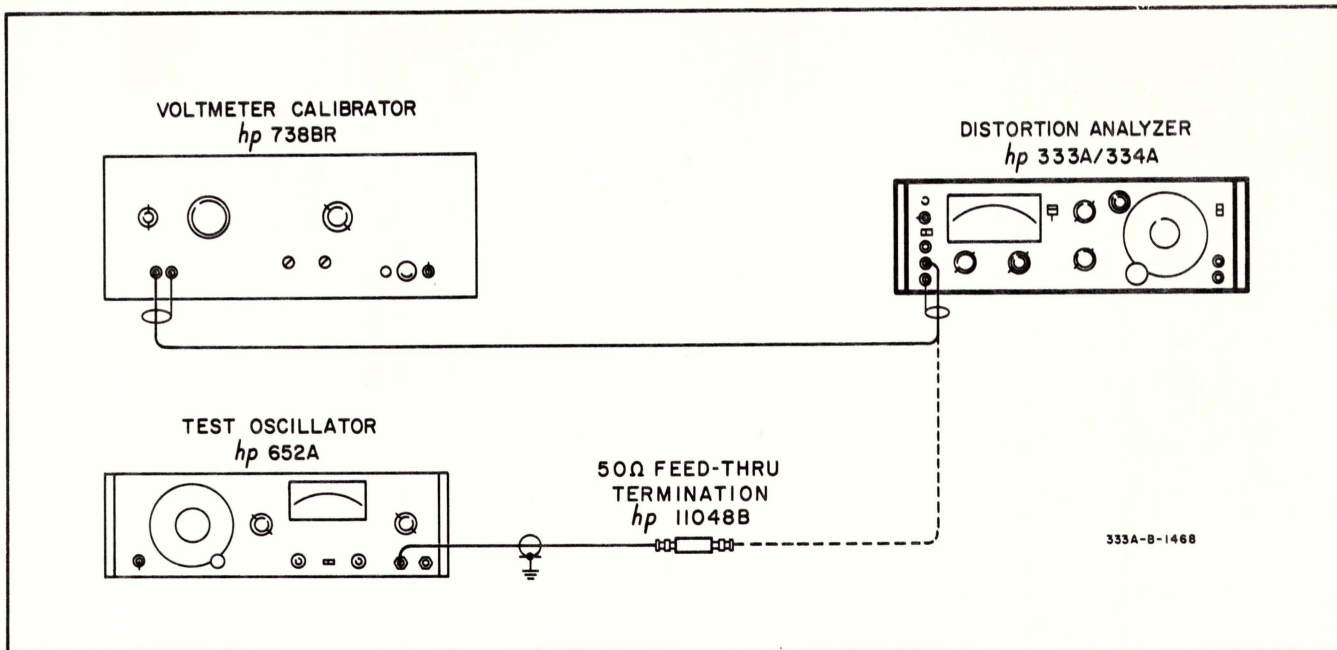

Figure 5-6. Voltmeter Accuracy and Frequency Response Check
- a. Connect voltmeter calibrator to 333A/334A as shown in Figure 5-6. Test oscillator will be used later in check.
- a. Connect voltmeter calibrator to 333A/334A as shown in Figure 5-6.
- a. Connect test oscillator to 333A/334A as shown in Figure 5-6.
- g. Disconnect test oscillator, and connect voltmeter calibrator to 333A/334A as shown in Figure 5-6.